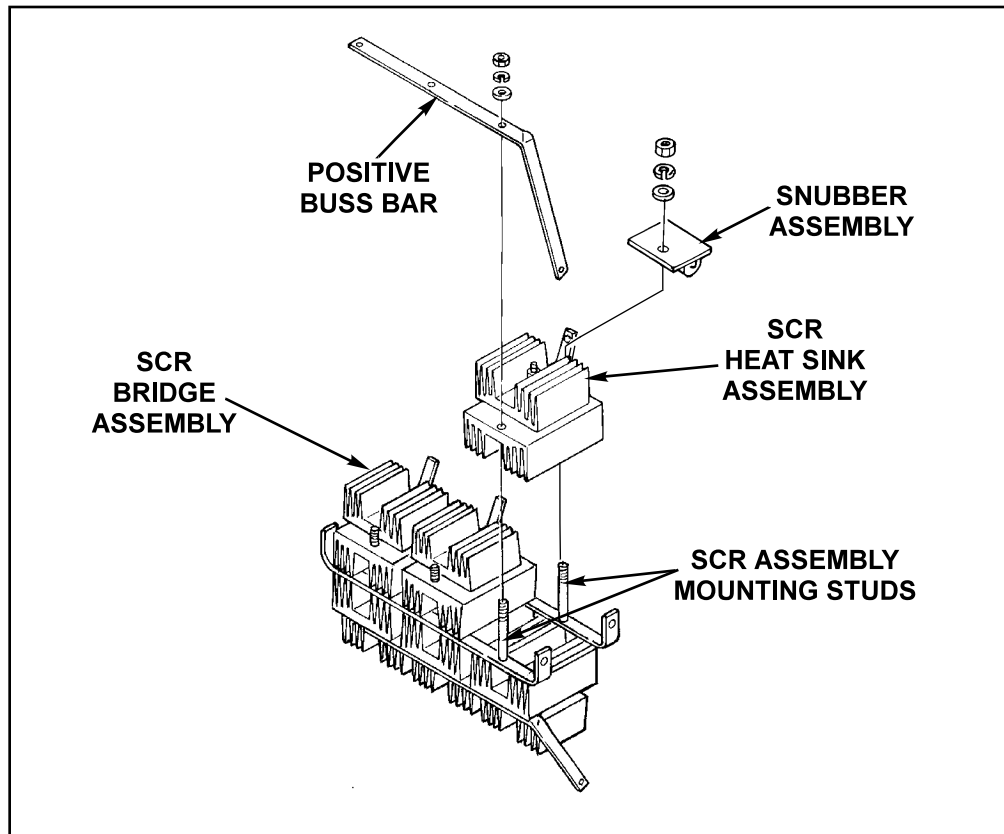

FIGURE F.24 - Individual SCR Assembly Heat Sink Removal
1. Using a 9/16" wrench, remove two nuts, flat washers, and lock washers from the SCR assembly mounting studs. See Figure F.24.